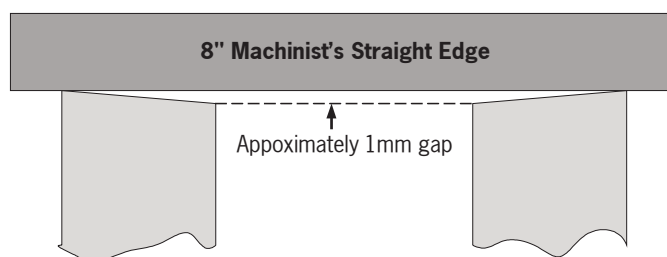

Figure 1
5. Using a 8" machinist straightedge, verify that the mating surface of the wheels are tapered slightly (approximately 1mm) from the outside to the inside (see Figure 1). Report any issues to the Technical Hotline.